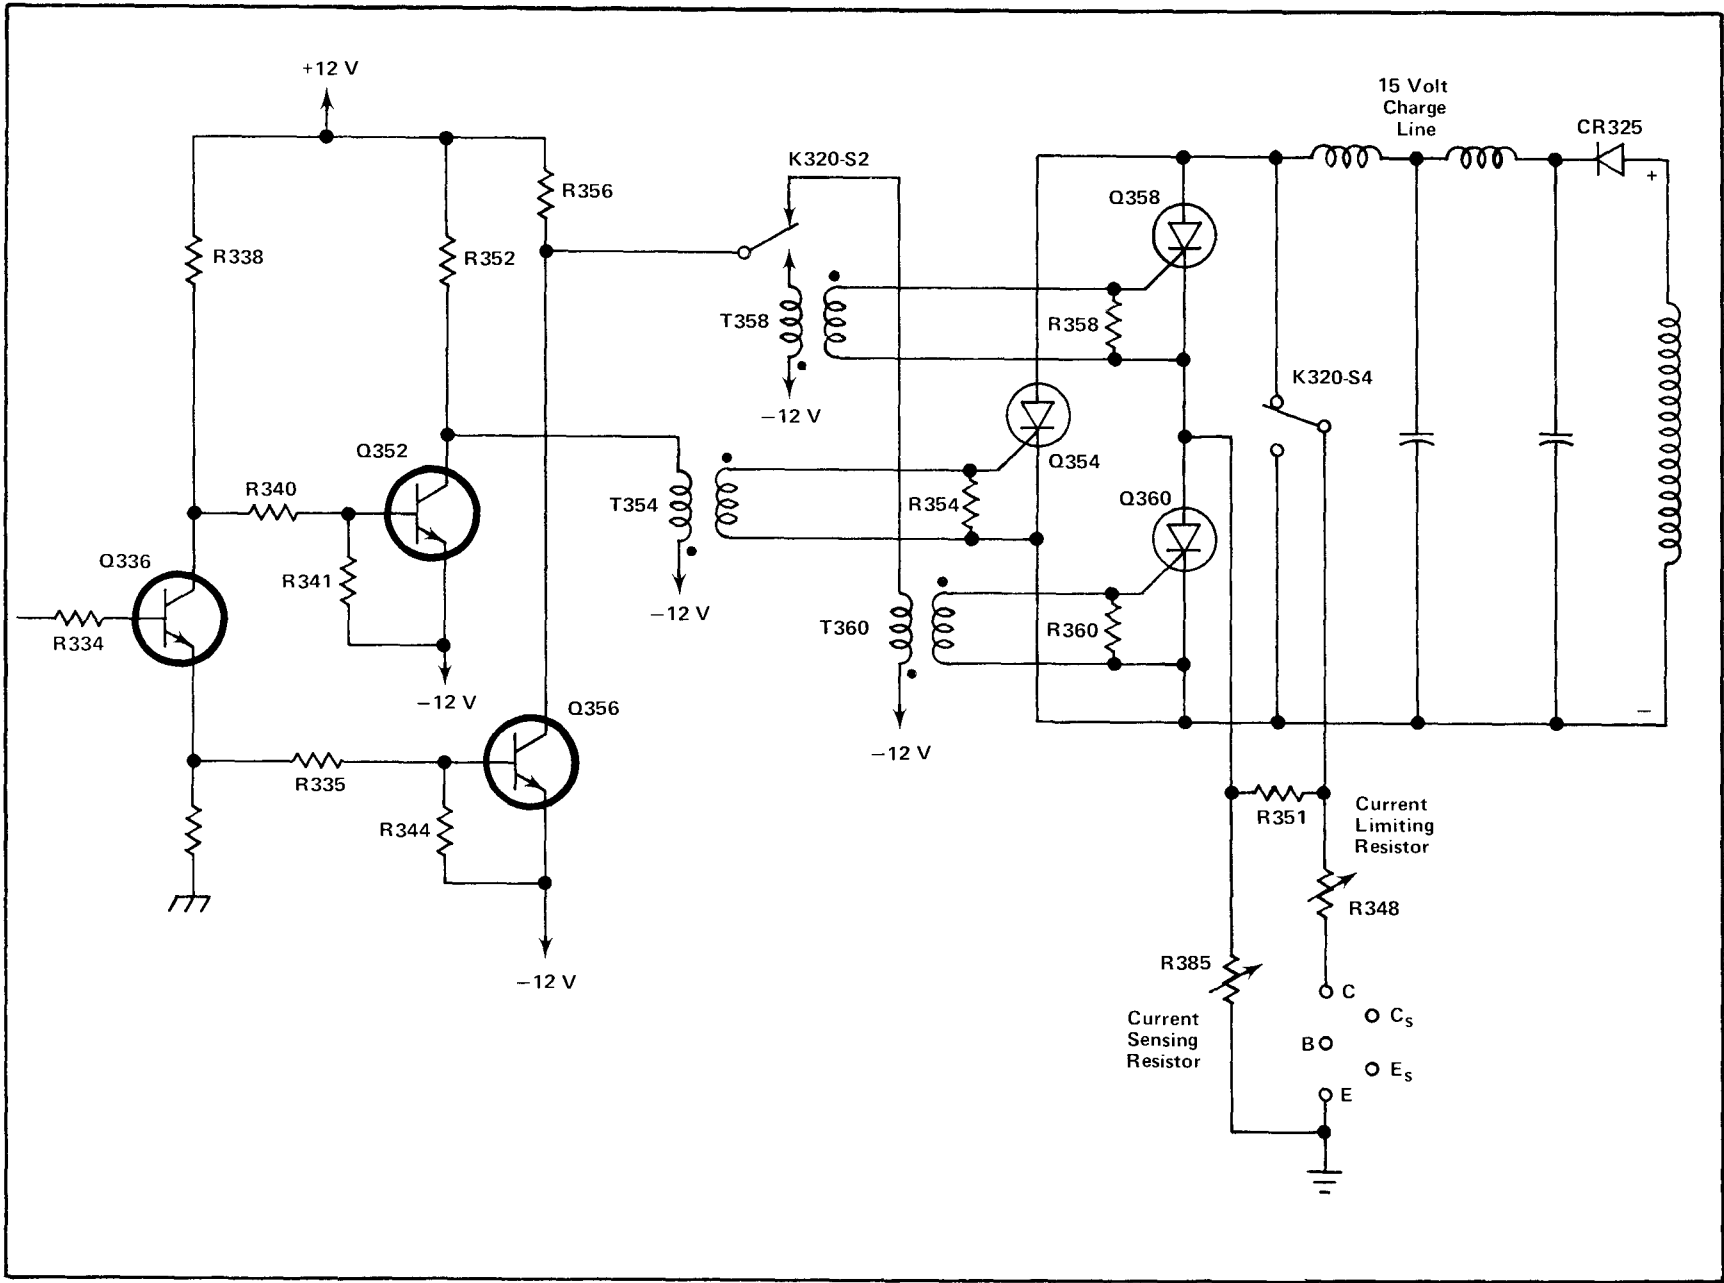

Fig. 4-3. Simplified schematic of Pulsed Collector Supply circuit.
**General.** The unrectified collector supply voltage from the Type 576 is applied to the 176. In the 176, CR325 (see Fig. 4-3) half wave rectifies this input voltage and applies the rectified voltage to the charge line. The charge line is thus charged during the positive half cycle of the Type 576 Collector Supply output, and disconnected from the supply during the negative half cycle. The charge line is discharged into the device under test during the negative half cycle.